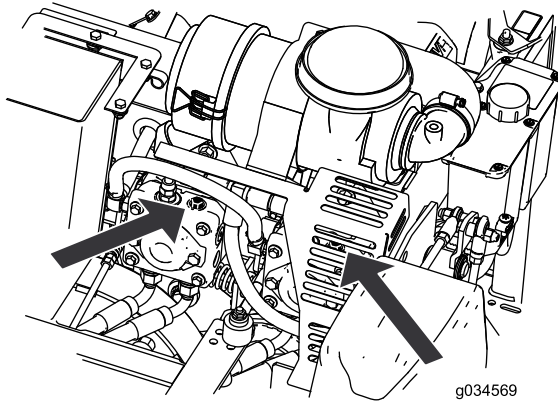

Figure 28
4. Rotate both release valves 1 turn counterclockwise to release the drive system (Figure 28). This allows the hydraulic fluid to bypass the pump, enabling the wheels to turn.